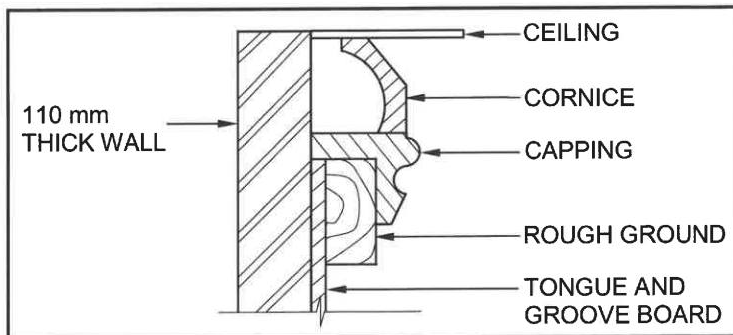

FIGURE 3.2
- 3.2 FIGURE 3.2 below shows an INCORRECT vertical section through part of a wall panel and the finish at the top.
- 3.2.1 Analyse the drawing and identify THREE installation errors in FIGURE 3.2.